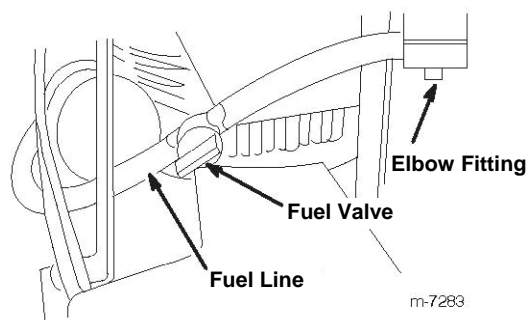
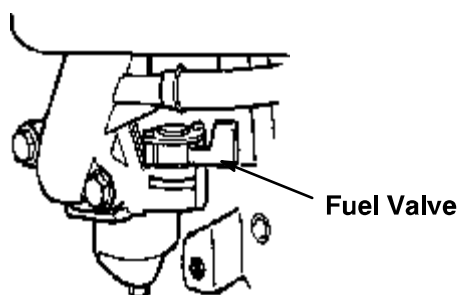

Figure 3
Figure 4
For Kawasaki Units: The fuel shut off valve is installed on the fuel line midway between the fuel tank and the engine as shown in Figure 3.
For Honda Units: The fuel shut off valve is located on the engine as shown in Figure 4.
2. Open the fuel valve (Kawasaki Units: See Figure 3, Honda Units: See Figure 4).